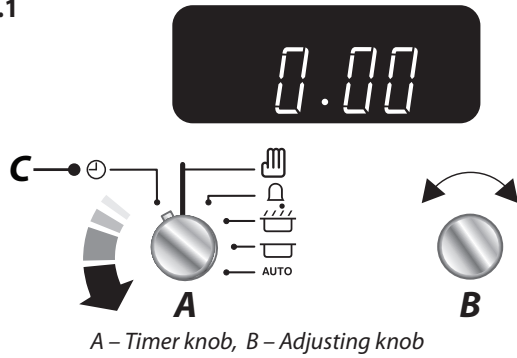

Fig. 2.2
1. Turn the **Timer (A)** knob to the **Minute Minder (E)** setting (**Fig. 2.2**).